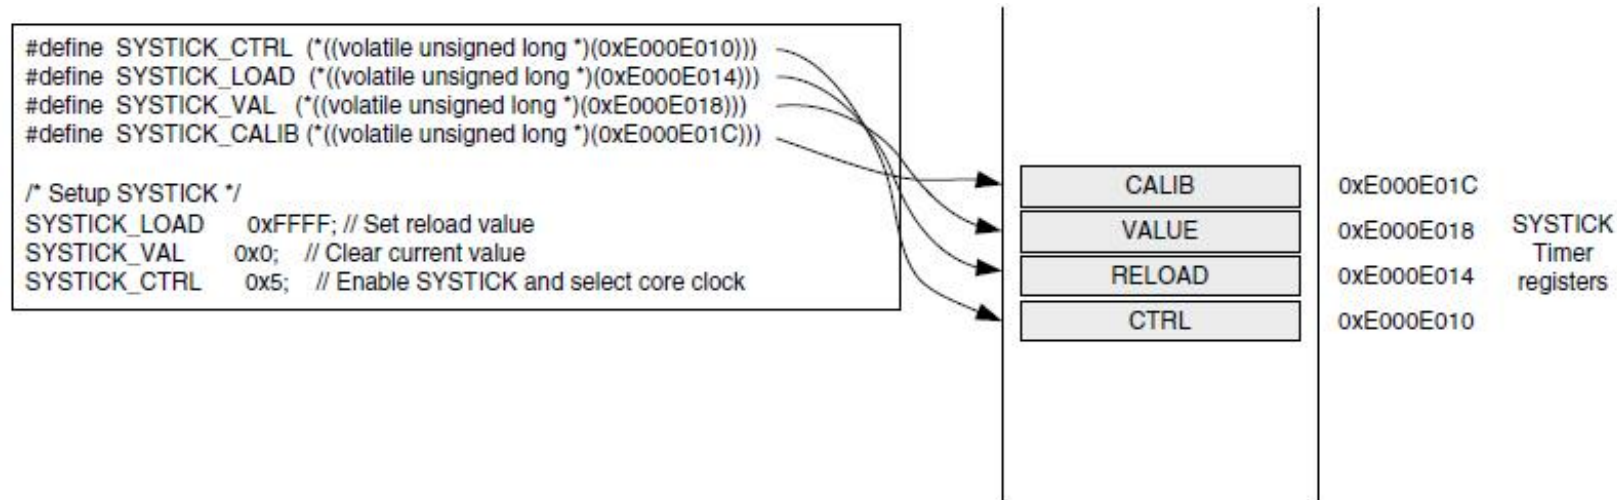

FIGURE 10.2
- This is illustrated in Figure 10.2.